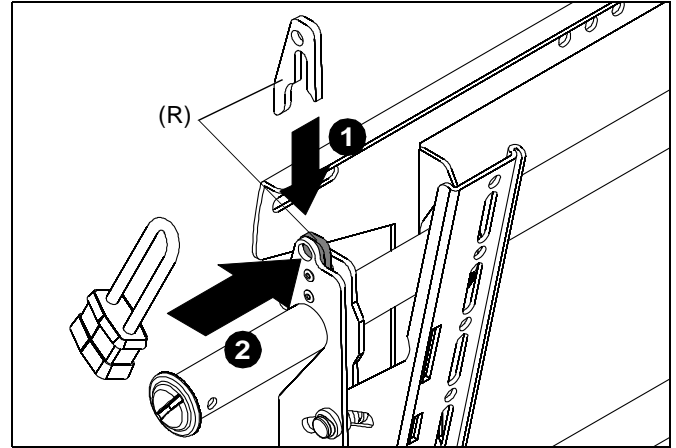

Figure 10
1. Add optional lock bracket (R) to the mount. (See Figure 10)